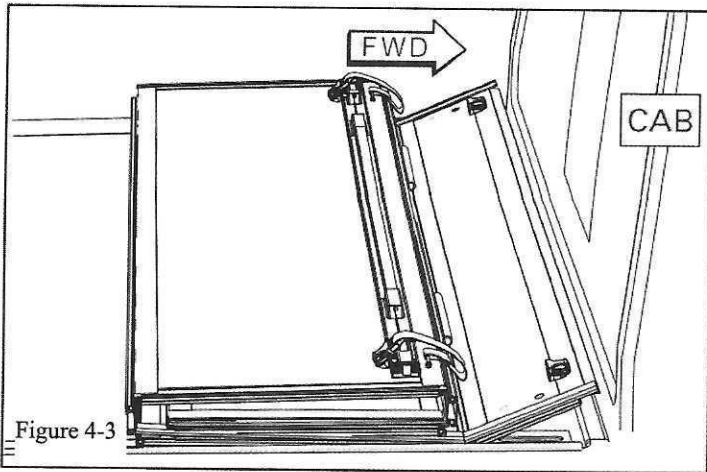

Figure 4-3
- (c) The front panel folds down over the slotted rail brackets. The front panel must sit just inside the bulkhead rail with the seal resting on top of the bulkhead. Fold the panel down and align it so it sits squarely on the rails and align the mounting holes with the slotted rail brackets (Figure 4-3).